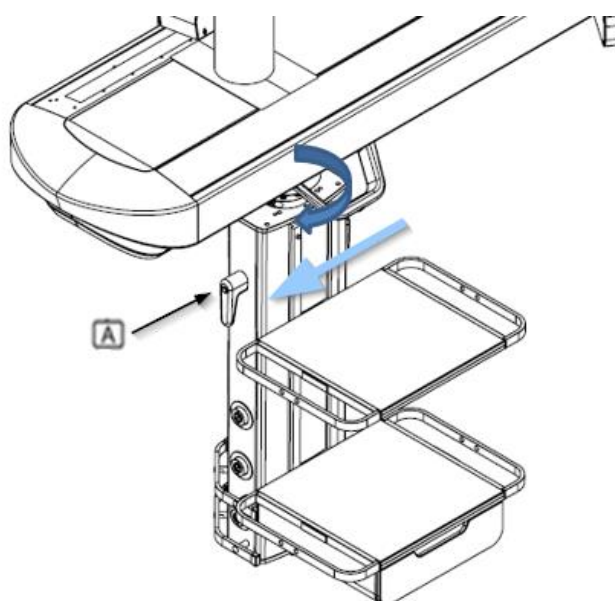

Fig.18 Unlocking the swing and travel brakes of ABITUS armless columns
- Fit the 4 M8 socket head cap screws ① into the 4 recesses provided in the upper part of the service head as shown in figure 18.
- For each M8 socket head cap screw ①, fit 1 S10 lock washer ② (as illustrated in figure 18) so that the flat washer is seated between the upper seal of the service head (on the inside) and the corresponding hexagon nut ③.